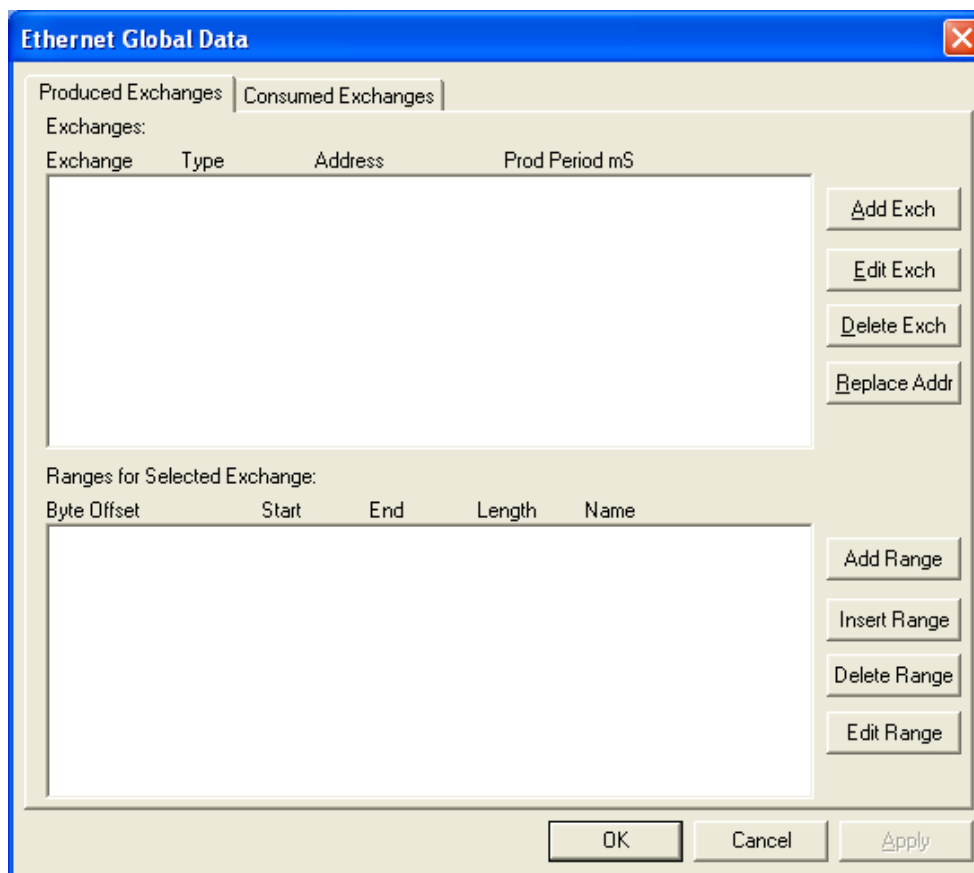
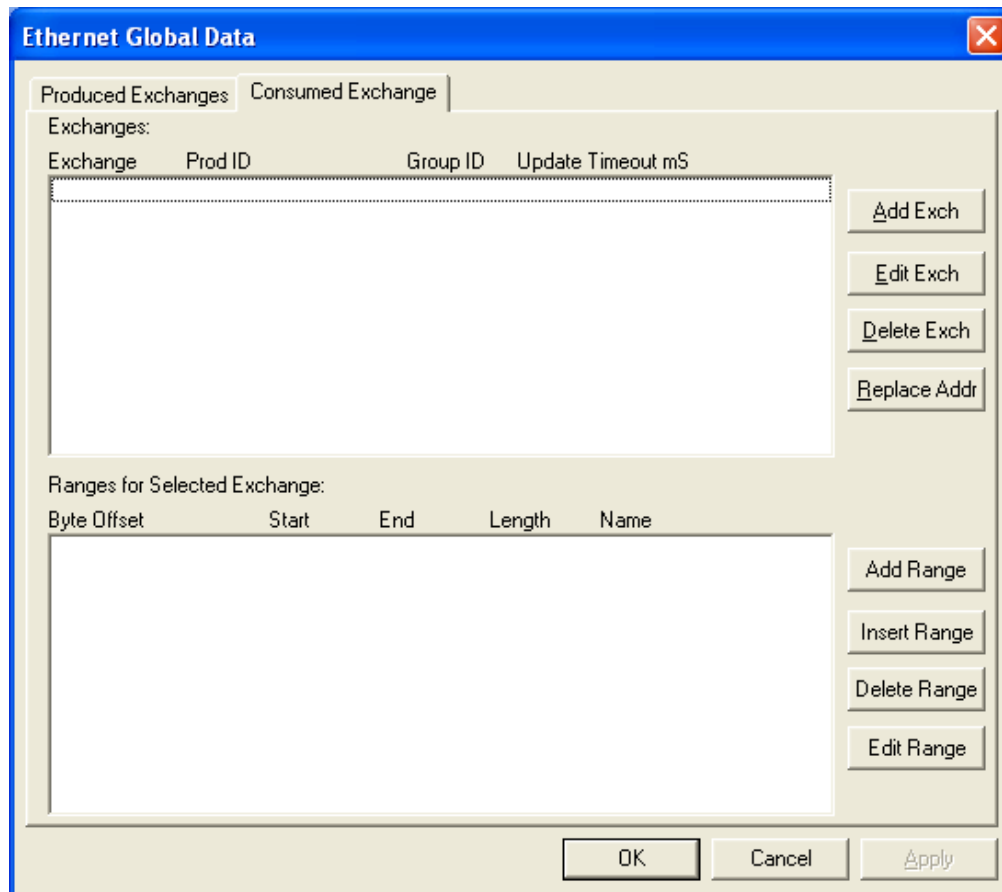
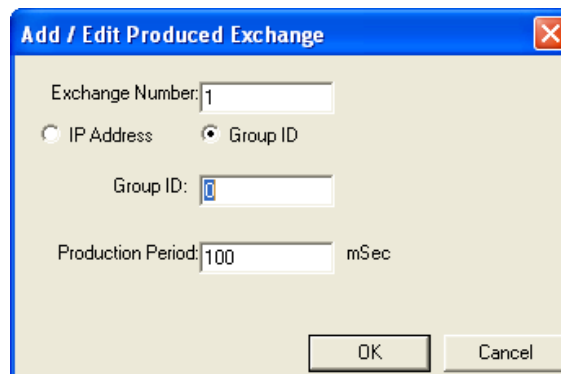
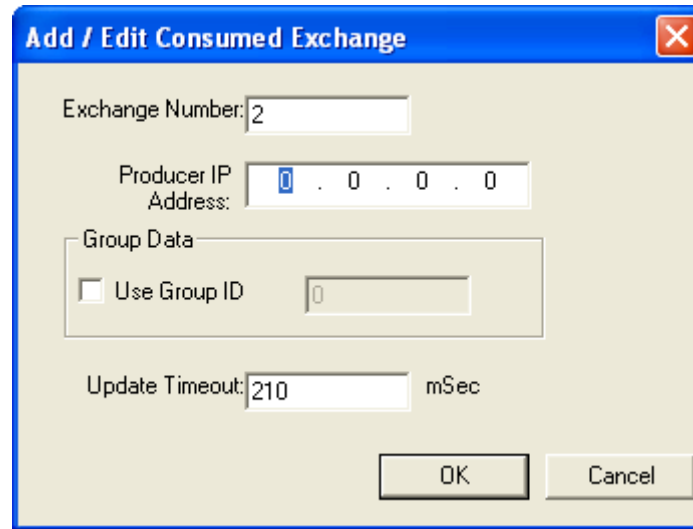

Figure 6.1– Ethernet Global Data (EGD) Configuration Dialog – Produced Exchange Tab Selected
Figure 6.2 – Ethernet Global Data (EGD) Configuration Dialog – Consumed Exchange Tab Selected
Figure 6.3– Add / Edit Produced Exchange Dialog – IP Address Selected
Figure 6.5– Add / Edit Consumed Exchange Dialog
1. On the main Cscape screen, select the **Tools** menu > **Application Settings** > **Communications** and then click on **Configure** button to display Add Target dialog (Figure 6.1).
3. Click on the **Config** button next to the **EGD (Ethernet Global Data)** checkbox to open the Ethernet Global Data Configuration dialog (Figure 6.1 or Figure 6.2).
Note: The Ethernet Global Data Configuration dialog allows EGD Produced and Consumed Exchanges to be configured. To configure Produced Exchanges, select the Produced Exchanges tab (Figure 6.1); to configure Consumed Exchanges, select the Consumed Exchanges tab (Figure 6.2)
To configure EGD Produced Exchanges, open the Ethernet Global Data Configuration dialog (Figure 6.1) as described in Section 6.3, and select the **Produced Exchanges** tab, where:
1. In the Ethernet Global Data Configuration dialog (Figure 6.1), click on the **Add Exch** button to open the Add / Edit Produced Exchange dialog (Figure 6.3).
3. Click **OK** to accept the new Produced Exchange configuration, which will be now be displayed in the upper window of the Ethernet Global Data Configuration dialog (Figure 6.1).
5. To edit or delete a Produced Exchange, highlight it in the upper window of the Ethernet Global Data Configuration dialog (Figure 6.1), and then click on the **Edit Exch** button or the **Delete Exch** button.
1. In the upper window of the Ethernet Global Data Configuration dialog (Figure 6.1), highlight one of the Produced Exchanges, and then click the **Add Range** button to open the Add I/O Range to Exchange dialog (Figure 6.4).
3. Click **OK** to accept the Produced Exchange's new I/O Block, which will now be displayed in the lower window of the Ethernet Global Data Configuration dialog (Figure 6.1).
Note: The OCS registers, specified in Data Block definitions, are sent to the EGD network in top-to-bottom order, as they appear in the lower window of the Ethernet Global Data Configuration dialog (Figure 6.1).
To configure EGD Consumed Exchanges, open the Ethernet Global Data Configuration dialog (Figure 6.2) as described in Section 6.3, and select the **Consumed Exchanges** tab, where:
1. In the Ethernet Global Data Configuration dialog (Figure 6.2), click on the **Add Exch** button to open the Add / Edit Consumed Exchange dialog (Figure 6.5).
3. Click **OK** to accept the new Consumed Exchange configuration, which will be now be displayed in the upper window of the Ethernet Global Data Configuration dialog (Figure 6.2).
5. To edit or delete a Consumed Exchange, highlight it in the upper window of the Ethernet Global Data Configuration dialog (Figure 6.2), and then click on the **Edit Exch** or **Delete Exch** button.
1. In the upper window of the Ethernet Global Data Configuration dialog (Figure 6.2), highlight one of the Consumed Exchanges, and then click the **Add Range** button to open the Add I/O Range to Exchange dialog (Figure 6.4).
3. Click **OK** to accept the Consumed Exchange's new I/O Block, which will be now be displayed in the lower window of the Ethernet Global Data Configuration dialog (Figure 6.2).
Note: The OCS registers, specified in Data Block definitions, are filled with received data in top-to-bottom order, as they appear in the lower window of the Ethernet Global Data Configuration dialog (Figure 6.2). In this respect, Filler Blocks are placeholders for Data Blocks and can be thought of as Data Blocks whose received data bytes are discarded.